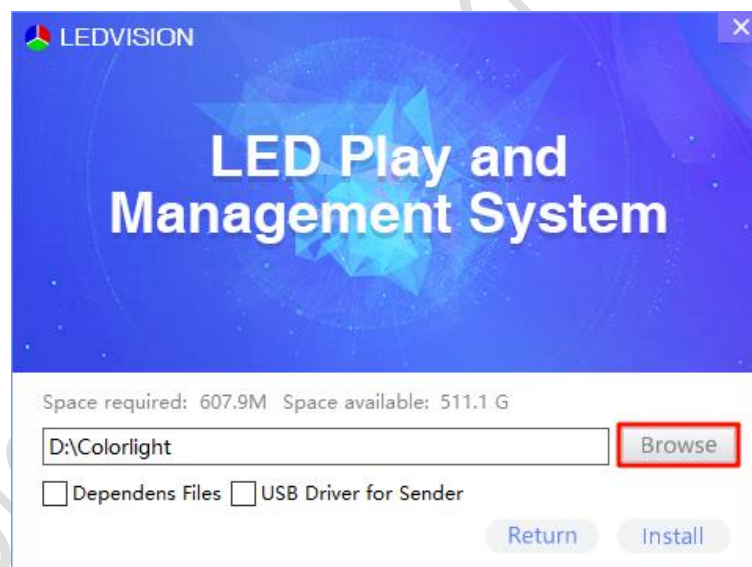

Fig 1.2.2 Custom installation
Step 1: In the installation interface, click **Customize** and choose a path you desired for installation. Then click **Install** to continue, as shown in Fig 1.2.2.